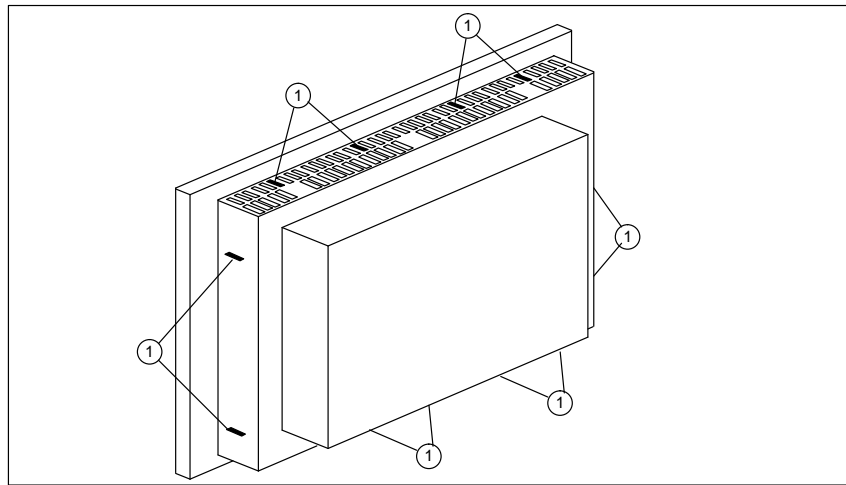

Figure 2-1 Positions for the screw clamps
3. Securely attach the OP to the front panel using the six screw clamps ^① supplied. Figure 2-1 shows the positions for the screw clamps.